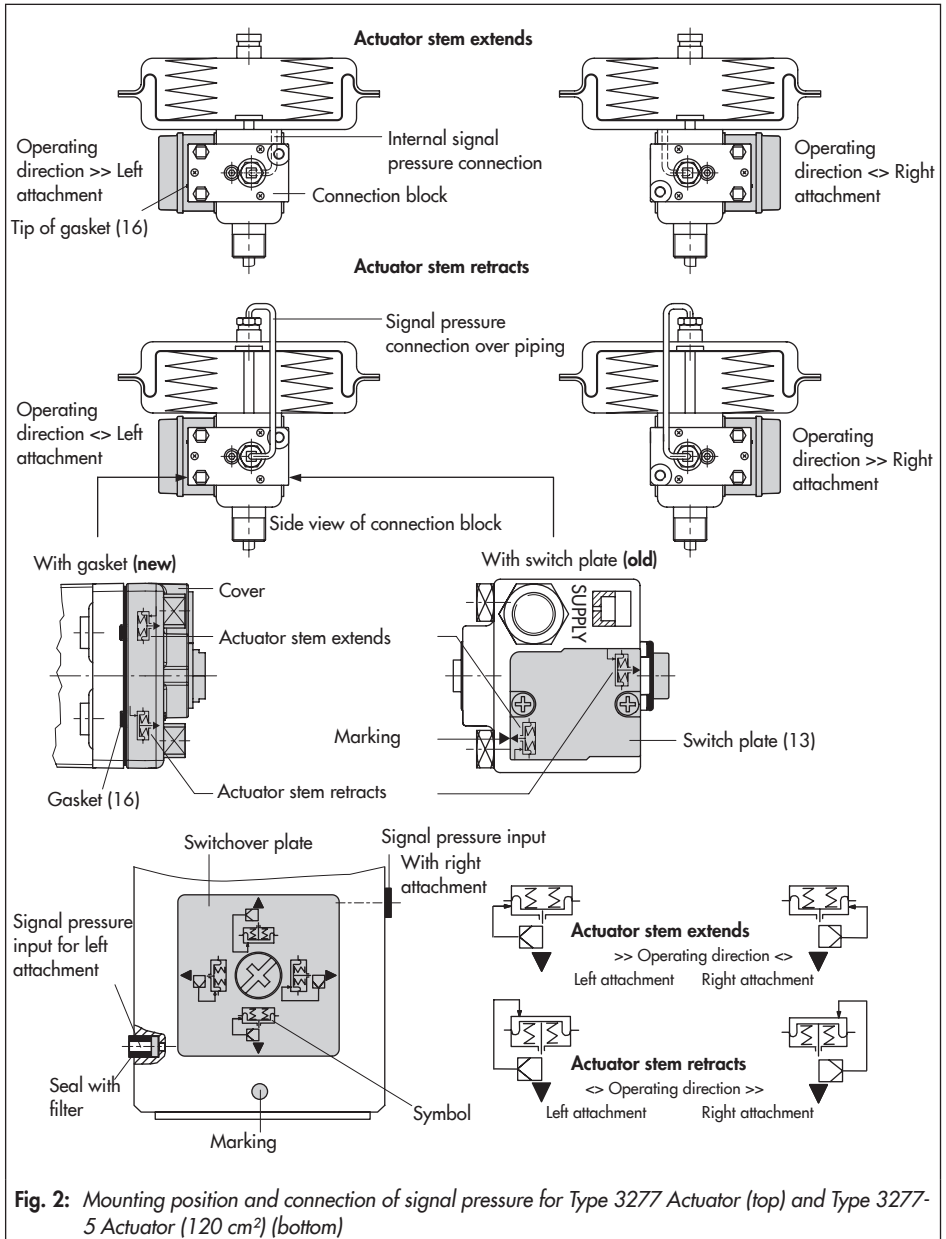
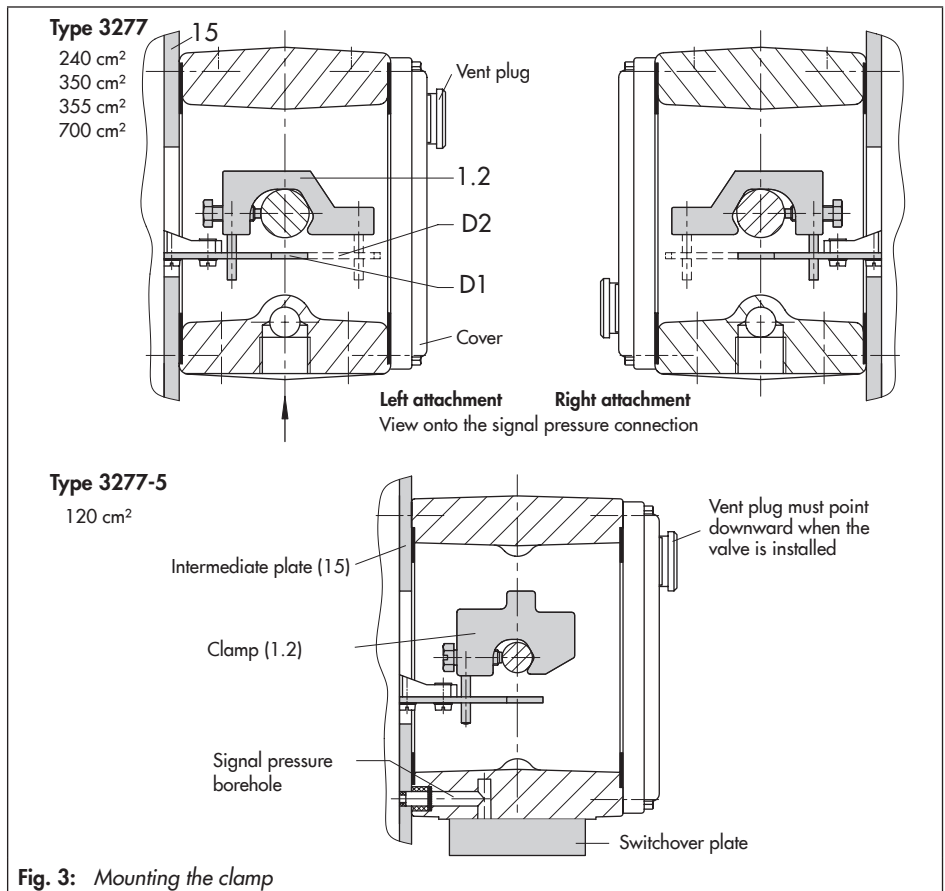

Fig. 2: Mounting position and connection of signal pressure for Type 3277 Actuator (top) and Type 3277-5 Actuator (120 cm²) (bottom)
Fig. 3: Mounting the clamp
The operating direction of the positioner also determines its mounting position on the actuator as illustrated in Fig. 2, Fig. 3 and Fig. 5. The turnboard (7 in Fig. 1) at the positioner must be mounted correspondingly.
7. Make sure that the tip of the gasket (16) projecting from the side of the connection block (Fig. 2, middle) is positioned to match the actuator symbol for the actuator's fail-safe action "actuator stem extends" or "actuator stem retracts". If this is not the case, unscrew the three fastening screws and lift off the cover. Turn the gasket (16) by 180° and re-insert it.
The signal pressure is transmitted to the diaphragm chamber over the switchover plate (Fig. 2 and Fig. 3, bottom).
| Table 1: Lever (see Fig. 3) | | | Mounting kit |